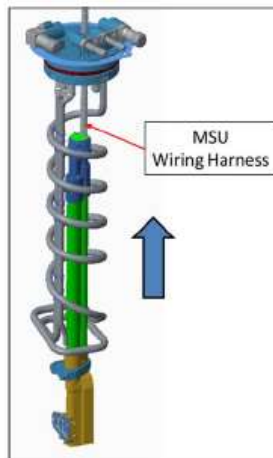

Figure 8: Feed the sensor harness through the bottom of the mounting base.
14. Feed the sensor harness through the bottom of the mounting base, as shown in Figure 8.